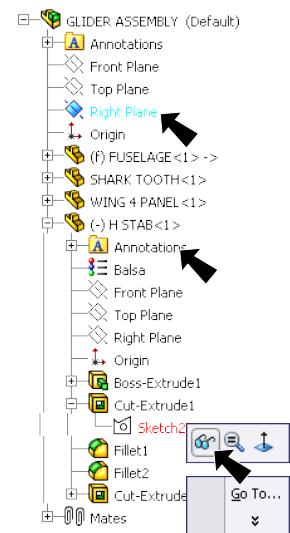

Fig. 54
Step 2. Expand the Design Tree in the top left corner of the graphics area and click **Right Plane** , **Fig. 54**.
Step 3. Expand **H STAB** and expand **Cut-Extrude-1**. **Right click Sketch2** and click **Show**  on the Content menu, **Fig. 54**.